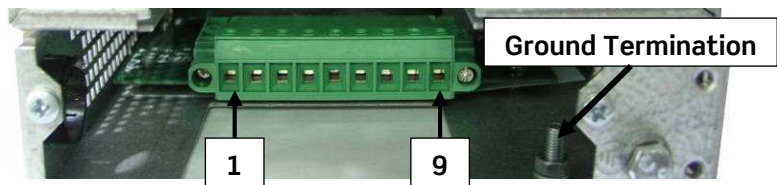
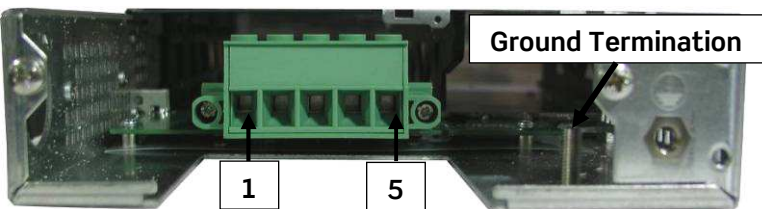

Figure 4 - Individual Feed Connector (Cover Removed)
Figure 5 - Dual Feed Connector (Cover Removed)
- 6) If necessary, terminate additional safety wires to the shelf ground termination stud located to the right of the connector (see Figure 4 and Figure 5).